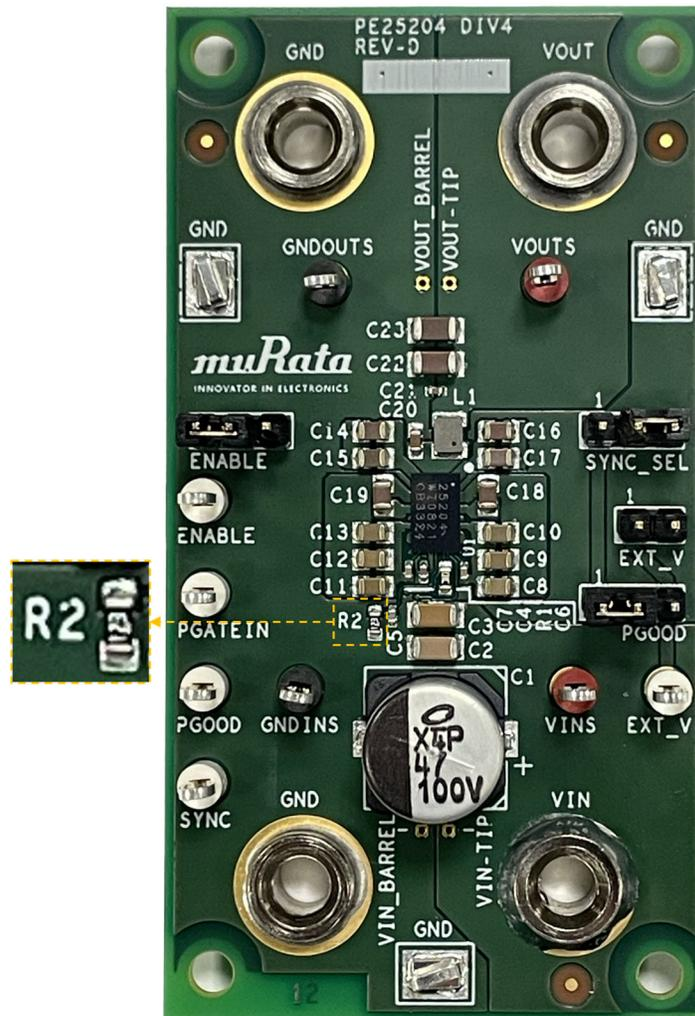

Figure 6. Recommended Jumper Positions
1. Before you power up the EVK, configure the ENABLE, SYNC\_SEL, and PGOOD selectors by fitting the jumpers in the recommended position shown in Figure 6 and listed in Table 3.